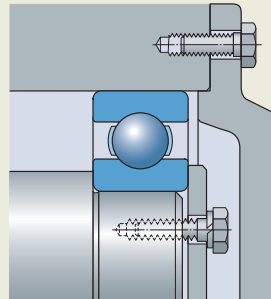

Fig. 15
- distance rings, which support against adjacent parts (fig. 15)